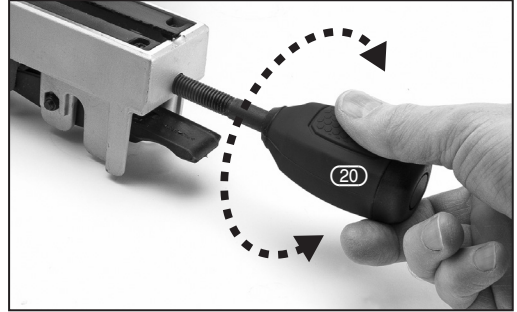

FIG. 3
6.3 MITRE HANDLE – FIG.3
- Attach the mitre handle (20) by screwing it into